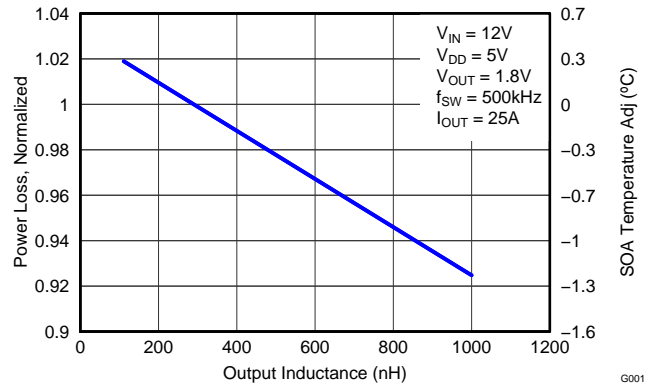

Figure 10. Normalized Power Loss vs Output Inductance
- Normalized Power Loss for output inductor \approx 1.01 (Figure 10)
- SOA adjustment for output inductor \approx 0.2 $^{\circ}$ C (Figure 10)